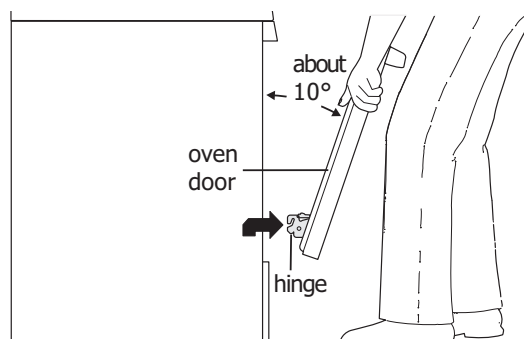
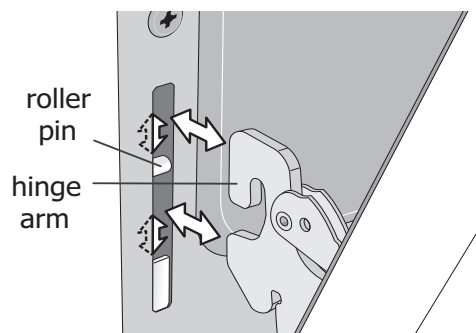

Figure 18: Holding door for removal
Figure 19: Location of hinge arm and roller pin
3. Firmly grasp both sides of oven door along the door sides. Do not use the oven door handle (see Figure 18).
5. Lift the oven door hinge arms over the roller pins located on each side of the oven frame (see Figure 18).
1. Firmly grasp both sides of oven door along the door sides. Do not use the oven door handle (see Figure 18).
2. Holding the oven door at the same angle as the removal position (see Figure 18), seat the hook of the hinge arm over the roller pins located on each side of the oven door frame (see Figure 19). The hook of the hinge arms must be fully seated onto the roller pins.